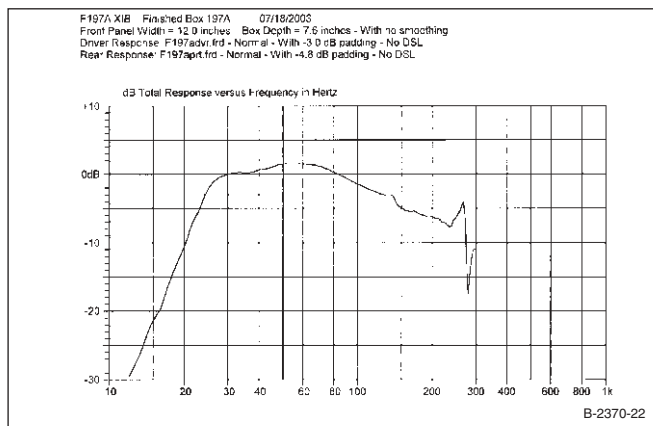

FIGURE 22: Measured response of subwoofer box A.
*Figure 22* shows the system response, without diffraction spreading loss, showing a usable re-